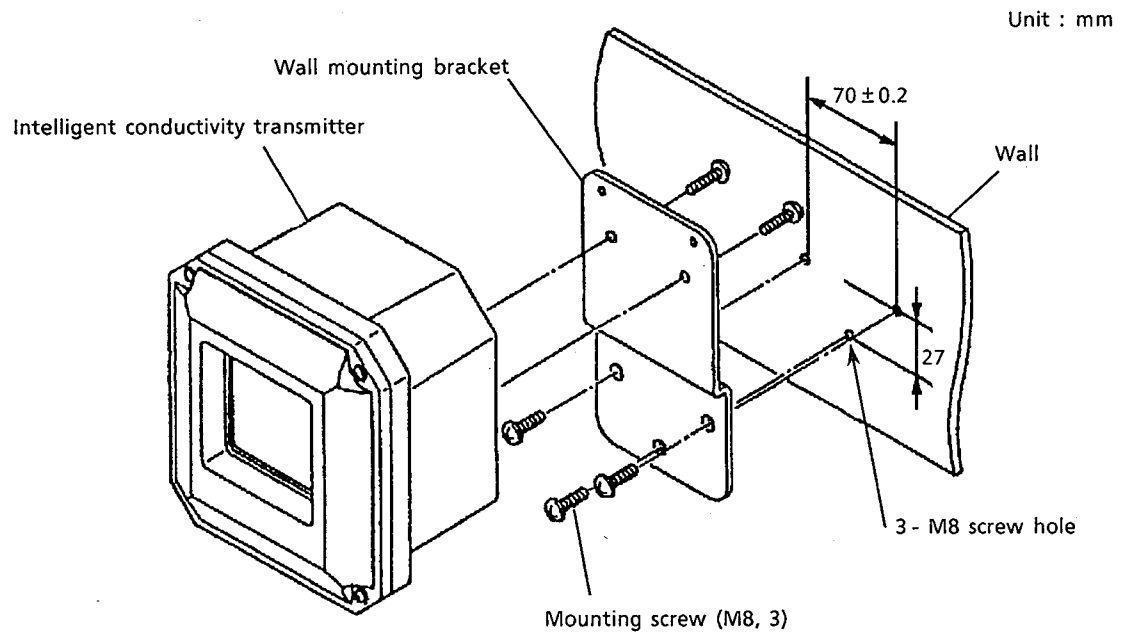

Figure 4.6 Wall Mounting Bracket and Procedure
(3) Wall Mounting
Figure 4.6 shows the mounting bracket and procedure for mounting on the wall. When mounting, machine screw holes (M8 screw (3)) as shown in the figure.